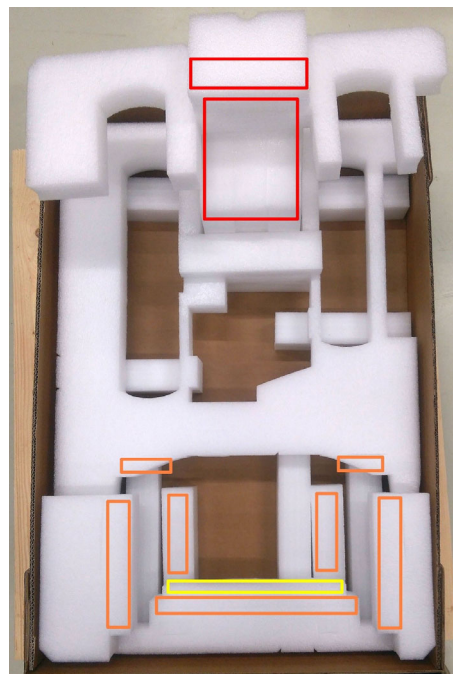

Fig. 14: Lower packing foam break outs
6. Break out all the parts of the protection foam indicated in Fig. 14: